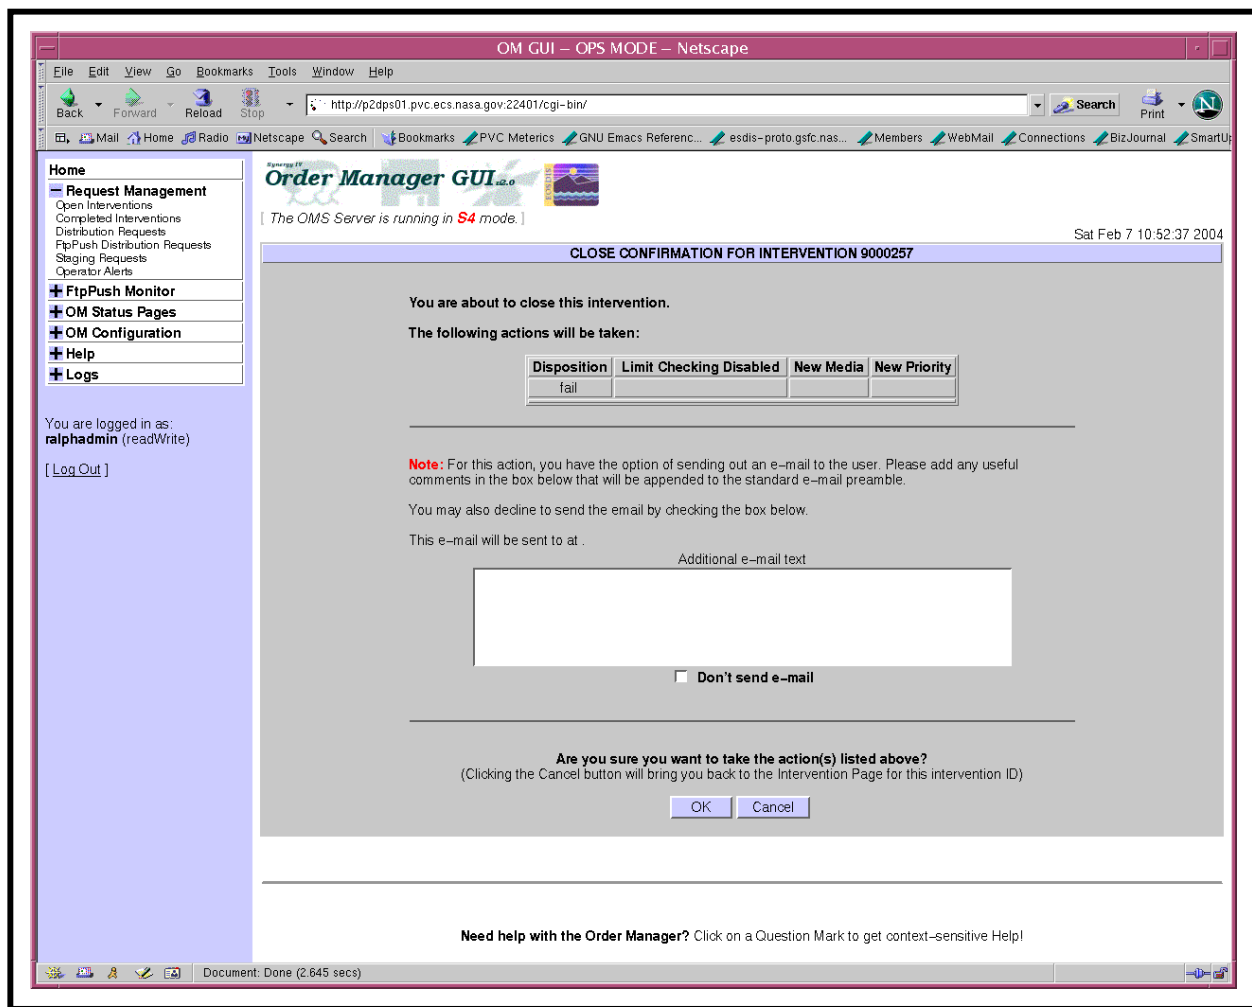

Figure 29. Close Confirmation Page Showing Additional E-Mail Text Box
- An **Additional e-mail text** text box for appending text (if desired) to the standard e-mail text is displayed on the **Close Confirmation** page (as shown in Figure 29).